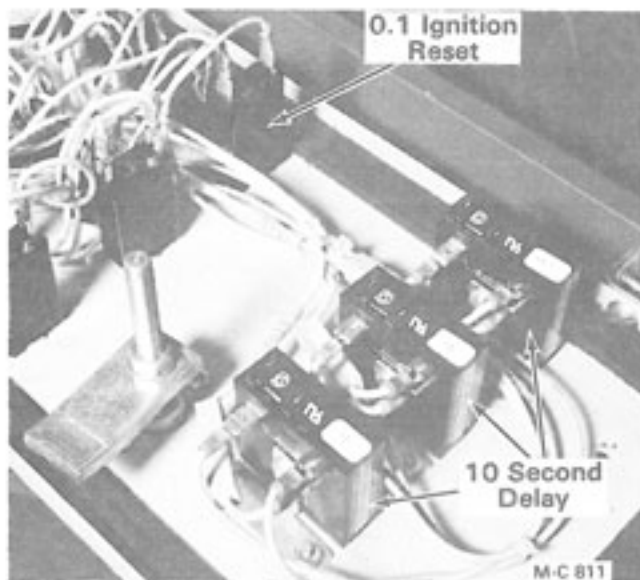

Figure 45
3. Look for loose, burned or broken wires, poor or corroded connections. Check the 10 second delay, Figure 45, and the ignition switch with a voltage tester.